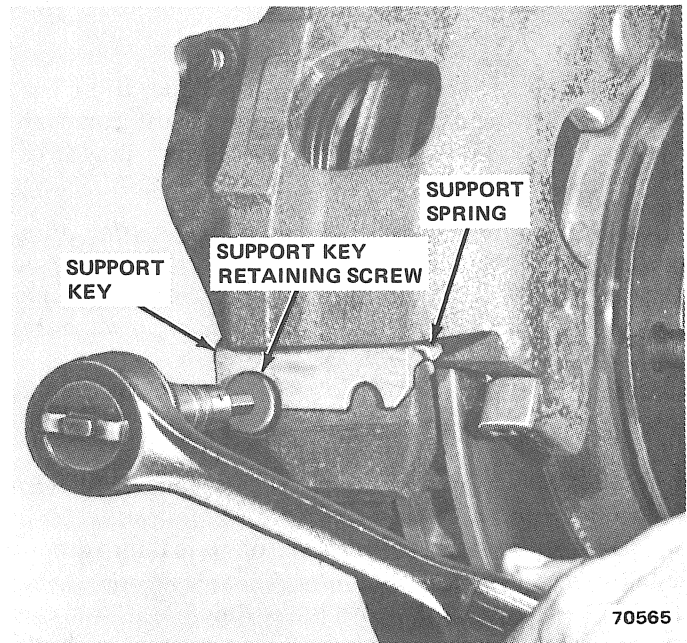

Fig. 2G-46 Support Key Retaining Screw Removal
- (7) Remove caliper support key and spring using punch and hammer (fig. 2G-47).